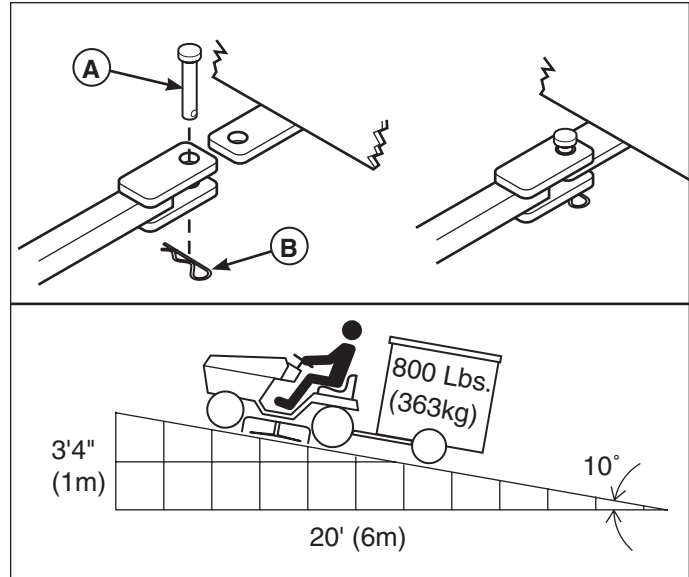

Figure 17. Trailer Weight Recommendations
The maximum weight of a towed trailer should be less than 800 lbs (363 kg). Secure the trailer with an appropriately sized clevis pin (A, Figure 17) and clip (B).